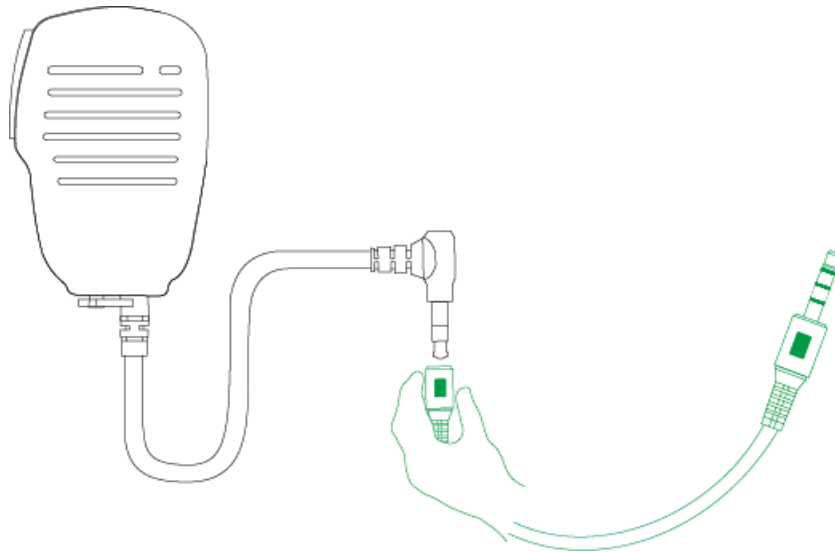

Figure 4-6
Step 1 Connect external microphone with patch cord, as shown in Figure 4-6.